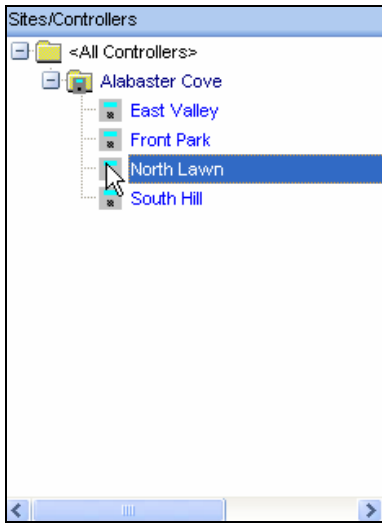

Figure 12.1.14
12. Now highlight the controller from the “**Site / Controller**” window that you want to get **ET weather data** from. Remember this controller must have an ET Gage attached (Figure 12.1.14).